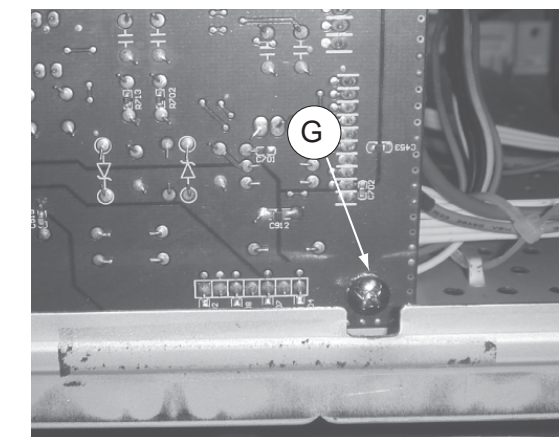

Figure 10
- 2) Loosen 1 screw 'G' at the side of the set as shown in Figure 10.